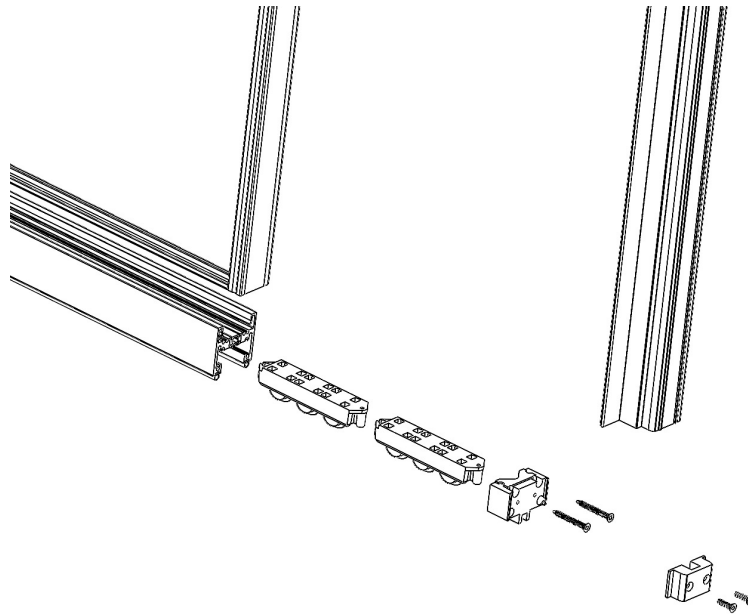

Figure 8
5. Determine the number of roller assemblies needed per panel and connect by sliding one (1) roller assembly onto the other. Continue this process for all required rollers. Once complete, slide the end sweep onto the roller assembly and set roller assemblies in front of panel.
6. Taking care not to scratch or shift the lead panel over. With a pry bar, lift the panel high enough to slide the roller assembly system into place. Ensure that all rollers rest onto the track cap and roll freely. (See Figure 8)